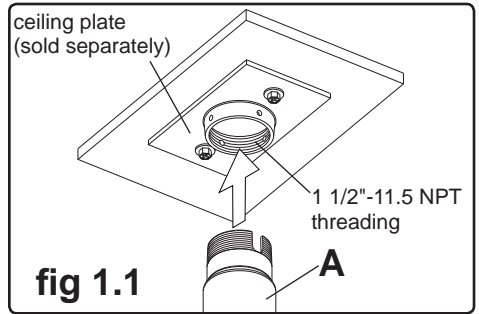

fig 1.1
Thread adjuster tube (A) into bottom of threaded fitting on ceiling plate (sold separately) as shown in figure 1.1. Tighten adjuster tube so thread is securely engaged.